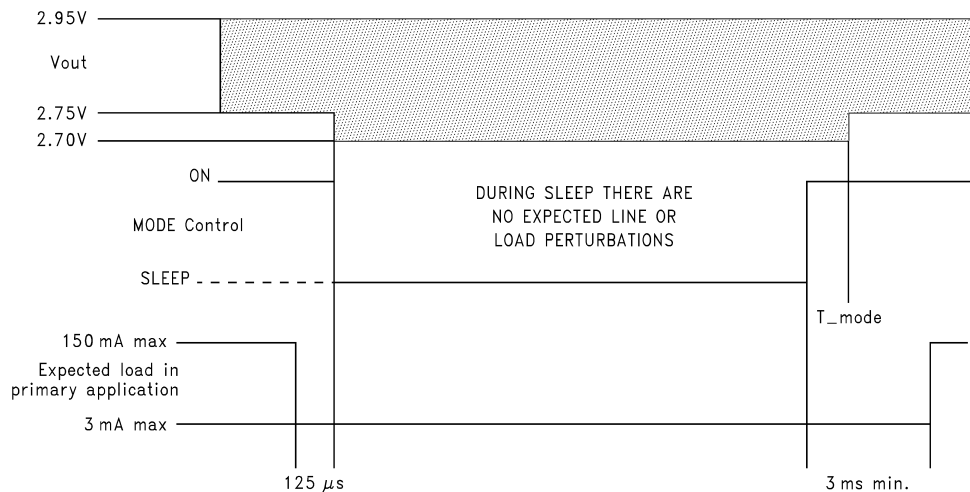
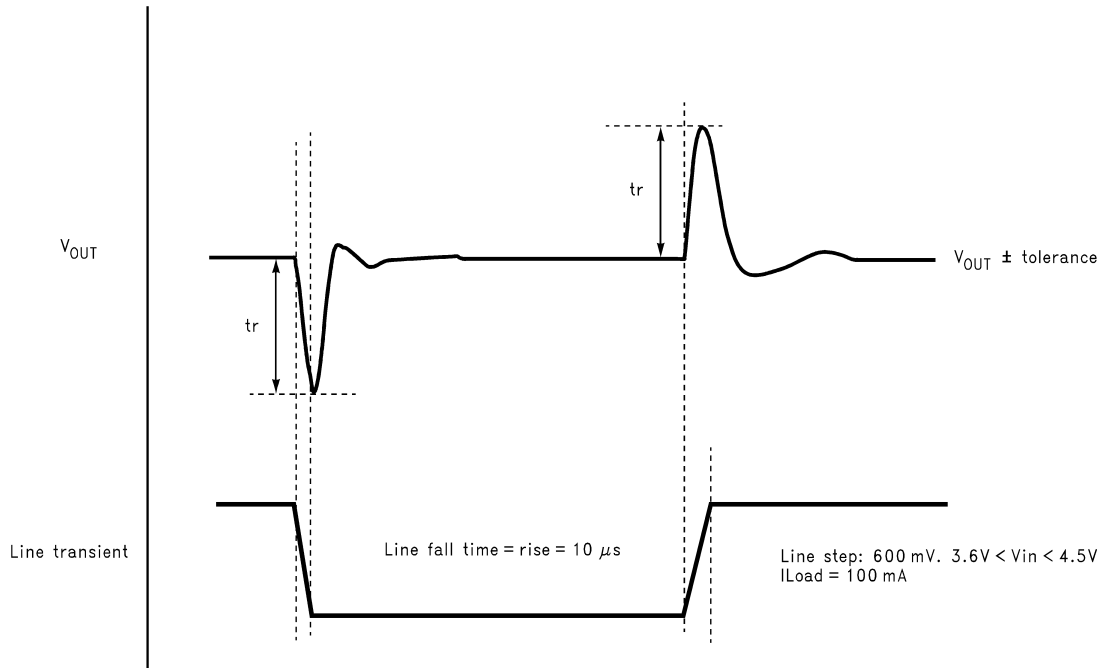

Figure 3.
Figure 4.
- (1) Min and Max Limits are verified by design, test, or statistical analysis. Typical (Typ.) numbers are not verified, but do represent the most likely norm.
- (2) The nominal output voltage, which is labeled  $V_{OUT(nom)}$ , is the output voltage measured with the input 0.5V above  $V_{OUT(nom)}$  and a 1mA load.
- (3) Dropout voltage is defined as the input to output voltage differential at which the output voltage falls to 100mV below the nominal output voltage.  $V_{IN}$  less than minimum operating voltage may be used for test purposes.
- (4) On/Sleep Mode voltage tolerance and current capability requirement. See Figure 3.
- (5) This electrical specification is specified by design.
- (6) Line Transient response requirement. See Figure 4.